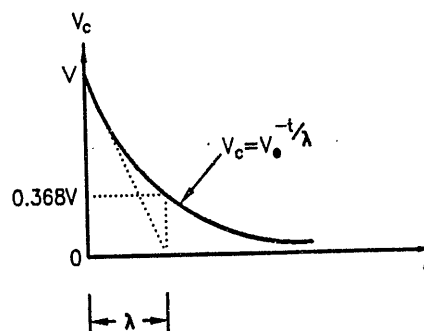

FIG. 1.182
- The above expression shows the variation of voltage (v_c) across the capacitor with time while discharging. It is represented in Fig. 1.182.